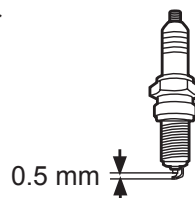

Fig. 54
7. Check the spark plug gap. It should be 0.5 mm (Fig. 54).